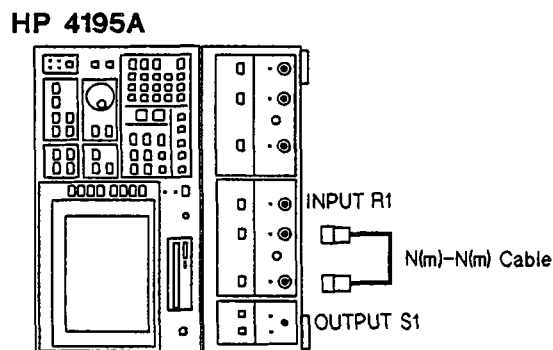

Figure 3-93. Third IF Converter Amplifier Adjustment Setup
1. Position the HP 4195A on its left side as shown in Figure 3-93.
2. Connect the N(m)-N(m) Cable from **OUTPUT S1** to **INPUT R1** as shown in Figure 3-93.